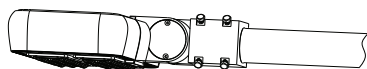

Figure 3
3. Put the wire into the pole, then fasten the slip fitter on the pole, and tighten 4 fixing screws. (figure 3)